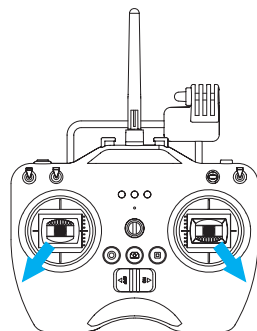

Figure 21
**Method One (Figure 21):** After the quadcopter lands, toggle the throttle joystick to the lowest position and then perform CSC, the motors will immediately stop. Release both joysticks after the motors stop.